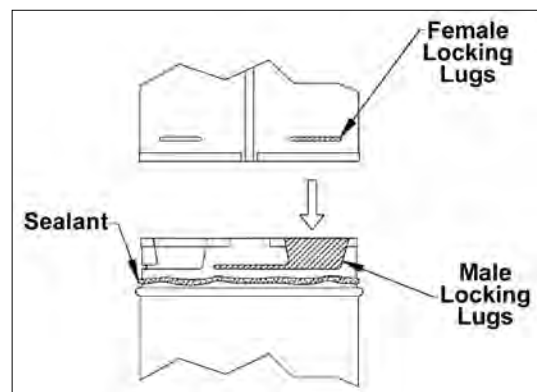

Figure 34: Twist-Lock Connection.
- (1) Twist-lock procedure: Four (4) indentations, located on the female ends of pipes and fittings, are designed to slide straight onto the male ends of adjacent pipes and fittings, by orienting the four pipe indentations so they match and slide into the four (4) entry slots on the male ends. Push the pipe sections completely together, then twist-lock one section clockwise approximately one-quarter turn, until the two (2) sections are fully locked.
- (2) Horizontal runs of vent must be supported every 3 feet (915mm). Wall Straps are available for this purpose.
- (3) Sealant is only necessary on the outer tube of the GS Pipe. Run a 1/8 inch (3mm) wide bead of sealant around the male end of the outer sleeve, as shown in Figure 34, and twist-lock the pipes or fittings together.